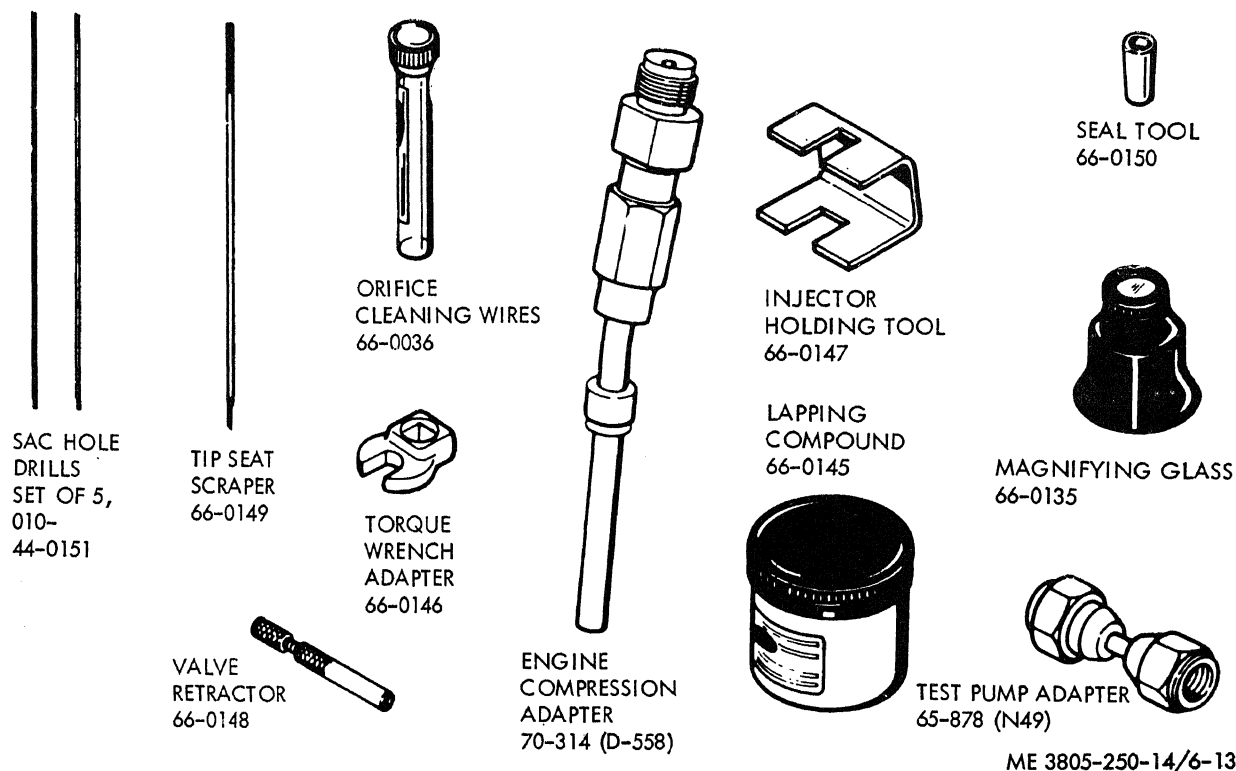

Figure 6-13. Fuel injector tool kit.
Note. The fuel injector tool kit (fig. 6-13) is used in
(1) Place all components in solvent to remove carbon deposits.
(2) Clean the injector body and tip with a brass wire brush. Clean carbon from spray orifices with 0.008, 0.009, and 0.010 inch diameter cleaning wires (fig. 6-13). Secure the wire in the pin vise with the wire protruding $1/32$ inch to prevent the wire from breaking off in the sac hole.
(3) Replace injector if any orifices are chipped at the edges or eroded so that spray pattern is affected.
(4) Clean the seat in the tip with scraper tool (66-0149).
(5) Insert sac hole drill (66-0151) into the sac hole. Rotate to remove deposits.
(6) Inspect the valve for pitting or erosion which could cause leakage.
(7) Inspect the adjusting screws for thread damage and replace if necessary.
g. Lapping. Lap the injector valve to the guide as follows. Lapping tools are a part of the fuel injector tool kit, figure 6-13.
(1) Disassemble the injector and flush the nozzle with solvent.
(2) Place a small amount of lapping compound on the valve seat and insert the valve onto the body. Grip the top of the valve with the retractor.
(3) Rotate the valve by hand, first clockwise, then counterclockwise a total of 3 to 5 revolutions.
(4) Flush the body with solvent and reassemble the injector.
(5) Retest the injector (subpara e). If the seat is tight but chatter is lost, replace the injector.